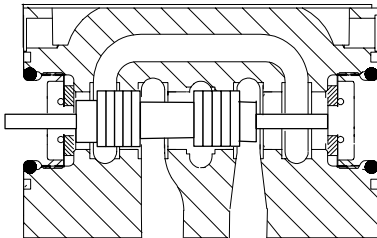
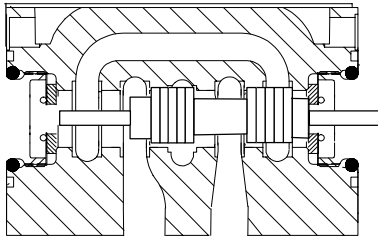
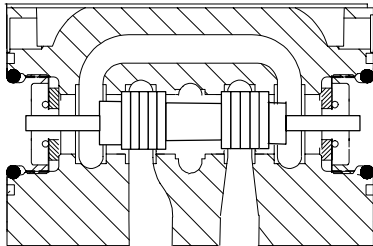

Figure 12a. Flow Conditions
Figure 12b. Flow Conditions
Figure 12c. Flow Conditions
2. Electrical Solenoid Pilot Operation: Electrical solenoids are attached to the pilot valve body. Internal push pins connect the solenoid to the pilot spool. When the magnetic field of solenoid "B" is energized, the solenoid armature moves the push pin and shifts the pilot spool towards solenoid "A" (see Figure 12a). When solenoid "A" is energized, the pilot spool shifts toward solenoid "B" (see Figure 12b). When both solenoids are de-energized, the pilot spool shifts to center position (see Figure 12c).